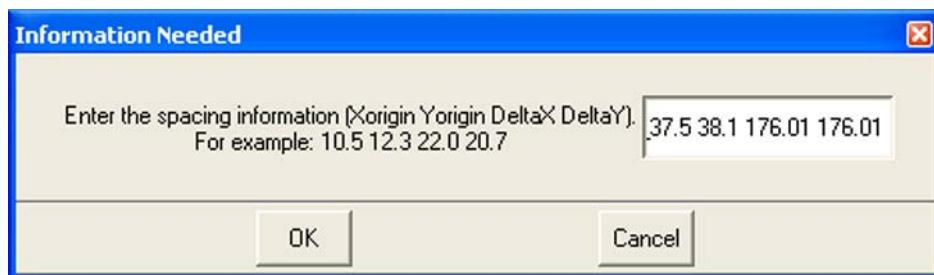

Figure 7-78
10.) Enter the x and y coordinates of BB 1 (e.g. x= 37.5, y = 38.1). Next enter the average distance between the BBs as calculated earlier (Figure 7-78). Enter this average twice e.g. 37.5 38.1 176.0 176.0 (be sure to include the space between each number). This tells the system the average spacing between BBs and where you want the system to start (from BB 1).